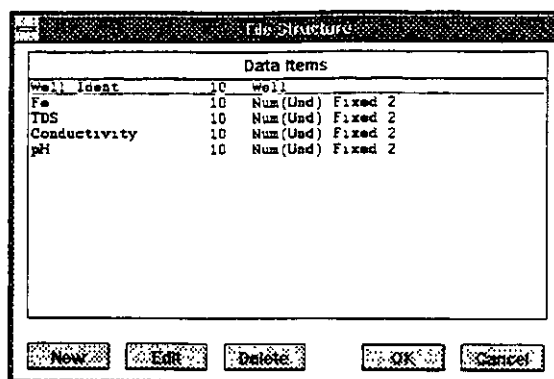

Figure 7-17
9. Repeat with all constituents, deleting one by one. Retain only Well Ident, Fe (Iron), TDS (Total dissolved solids), pH, and Conductivity. What remains may look as shown in Figure 7-17.